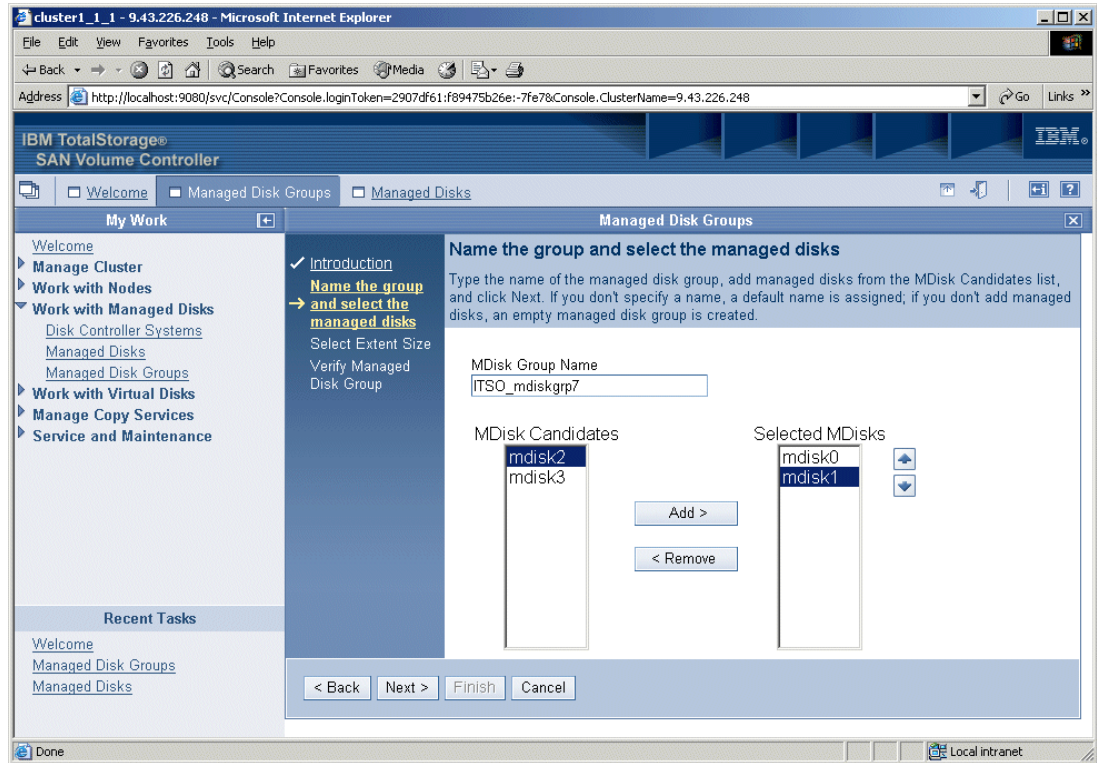

Figure 9-41 Name the group and select the managed disks
3. On the Name the group and select the managed disks panel (Figure 9-41), give your MDG a name. Optionally select the mDisk Candidates and add them to the Selected mDisks list (one at a time) in the desired order.